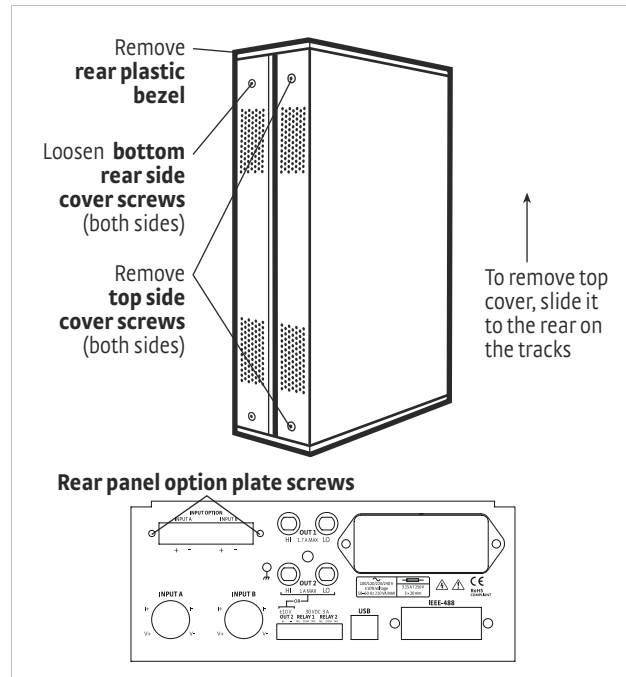

FIGURE 8-9 Cover and option plate screws
2. Stand the unit on its face. Use the hex driver to remove the four screws on both sides of the top cover; set aside these screws. Loosen the two rear bottom screws (FIGURE 8-9).